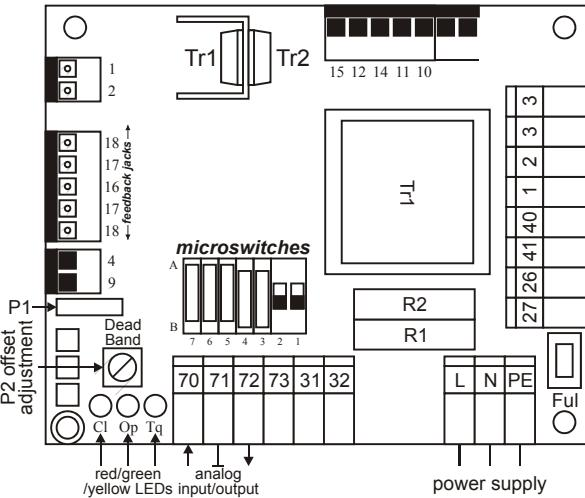
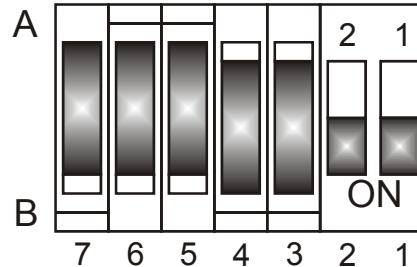

Fig. 7. Main PCB of the V5422E
Fig. 8. Default microswitch settings of the V5422E
The V5422E series is equipped with a main PCB (see Fig. 7) located (together with a feedback potentiometer and the angle indicator) under the cover (see Fig. 4). To access the main PCB, remove the cover.
- To adjust the V5422E for modulating control, microswitches 5 and 6 (located on the main PCB; see Fig. 7) must both be set to position "A" (see Fig. 8).
The offset of modulating actuators is adjusted at the factory and should not be changed. If you wish to change the offset (using offset potentiometer P2; see Fig. 7), note that an excessively small offset will result in oscillation of the actuator.
6. Using a small screwdriver, adjust the potentiometer P1 (located on the main PCB; see Fig. 7) until the valve closes completely.